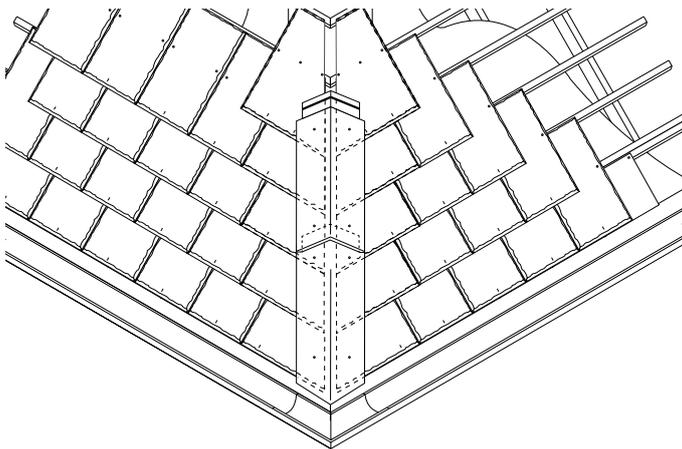

Fig. 17 Cedral fibre cement fibre cement ridge units used as hip capping
- 5 Fix subsequent units up the hip, sealing the joints with 6mm diameter butyl strip (Fig. 17, page 34).